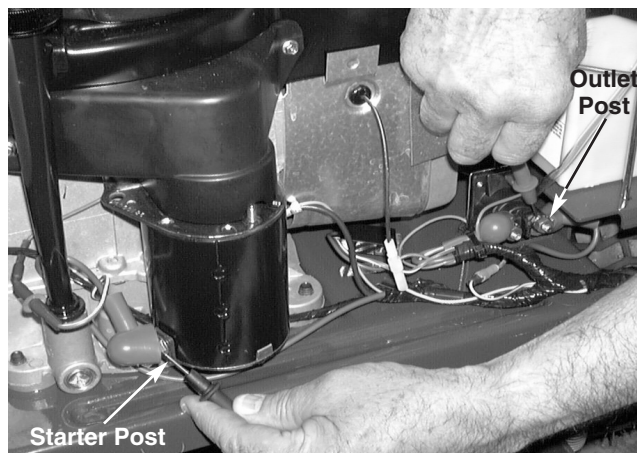

FIGURE 4.
- 6). Place one probe on the outlet post of the solenoid. Place the second probe on the starter post. -There will be **CONTINUITY**. See figure 4.